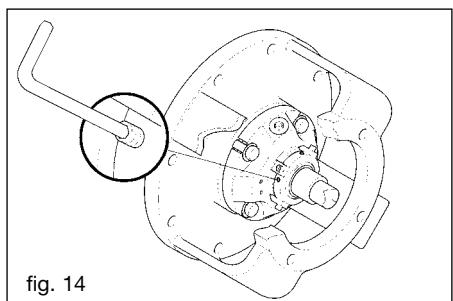

fig. 14
- Tighten the grub screws as far as they will go (fig. 14)